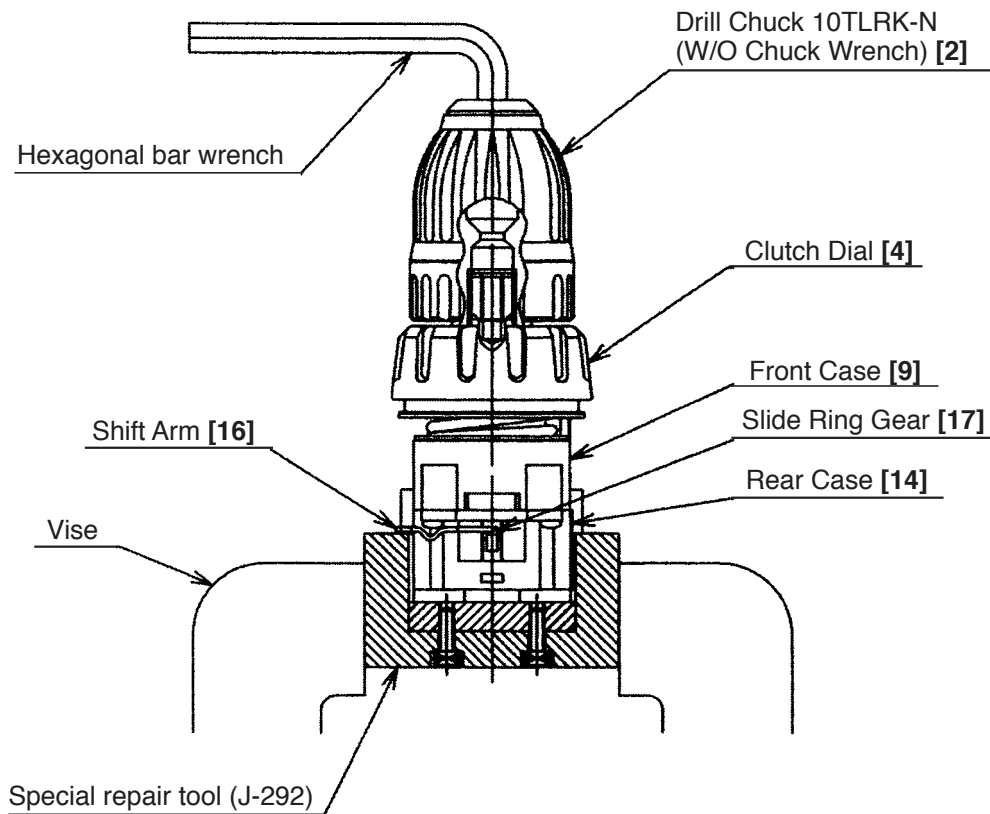

Fig. 5
(3) After housing (B) has been removed, all the internal parts, assembled or separate, can be taken out as they are. Lift the entire contents from housing (A) while holding the Motor **[25]** and the Clutch Dial **[4]**.
(4) Removal of the Drill Chuck 10TLRK-N (W/O Chuck Wrench) **[2]** (See Fig. 5.)
(b) Attach the motor spacer (an accessory of the special repair tool J-292, Code No. 316-379) to the assembly of the Drill Chuck 10TLRK-N (W/O Chuck Wrench) **[2]**, Clutch Dial **[4]**, Front Case **[9]** and Rear Case **[14]** then mount it in special repair tool J-292 clamped in the vise as illustrated in Fig. 5. In this operation, check that the pinion press-fitted in the special repair tool J-292 and Planet Gear (A) Set **[21]** are engaged properly.
(e) Fit the hexagonal bar wrench M10 into the Drill Chuck 10TLRK-N (W/O Chuck Wrench) **[2]** as illustrated in Fig. 5 and remove the Drill Chuck 10TLRK-N (W/O Chuck Wrench) **[2]** by turning the hexagonal bar wrench counterclockwise.